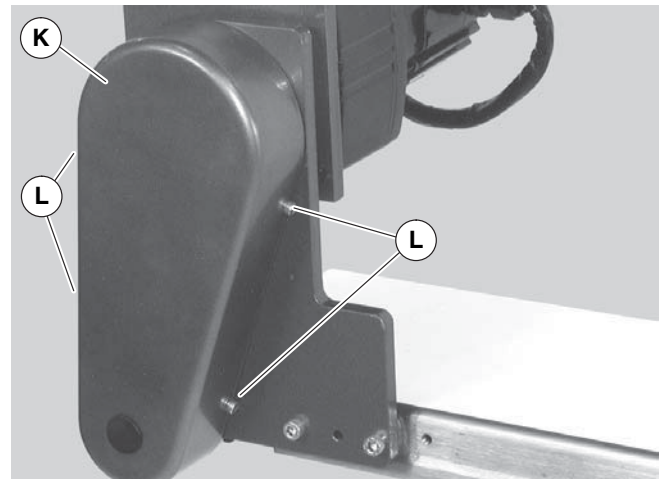

Figure 13
9. Install cover (Figure 13, item K) with four screws (L). Tighten to 35 in-lb (4 N-m).
1. Remove four screws (Figure 13, item L) and remove cover (K).
4. Install cover (Figure 13, item K) with four screws (L). Tighten to 35 in-lb (4 N-m).
6. Install cover (Figure 13, item K) with four screws (L). Tighten to 35 in-lb (4 N-m).
4. Remove four screws (Figure 13, item L) and remove cover (K).